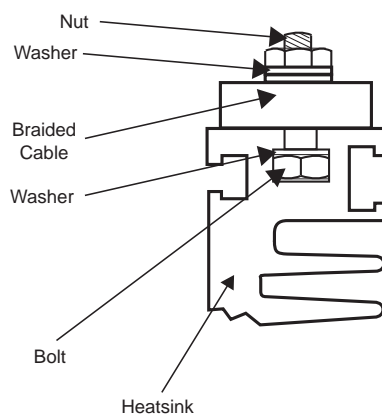

Figure 56: Assembly of Braided Cable to Heatsink
2. If replacing the SCR pole, remove the braided cables and standoffs. Use these in the new pole assembly. When replacing the braided cables, make sure cables are flush with the top side of the channel. Otherwise, proper conduction may not occur. Refer to Figure 56 for assembly of the cable to the channel.